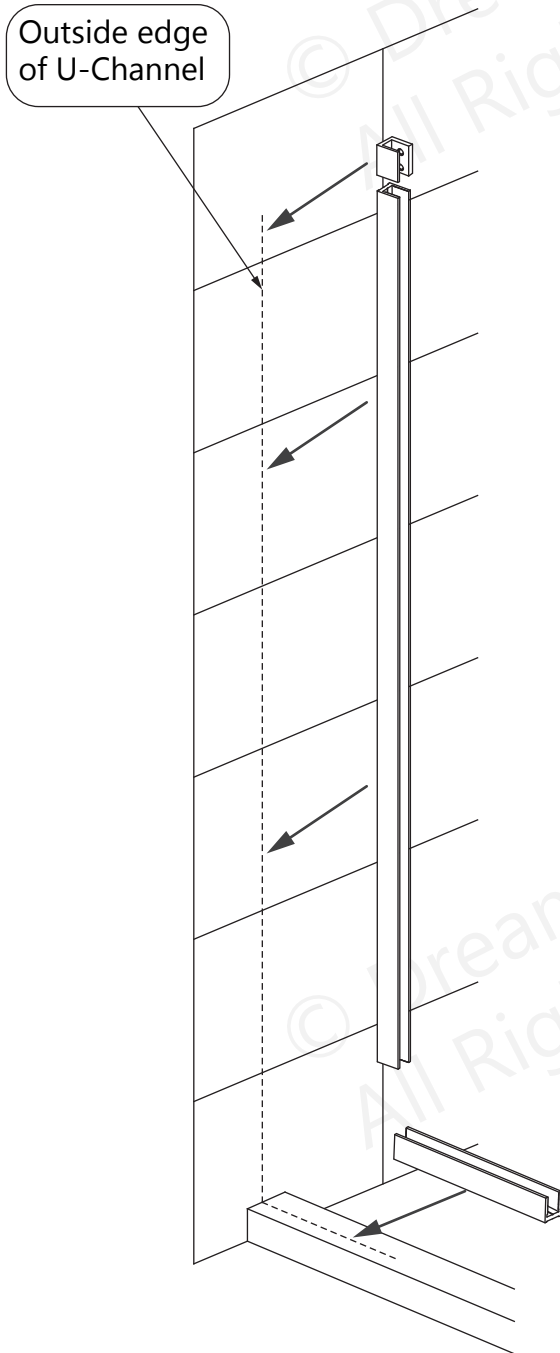

**Fig 2**
**2.** Use a hacksaw or a miter saw: Cut the Vertical U-channel to **69-7/16"**. Cut the Bottom U-channel\*\* to **6"**. **(Fig 2)**